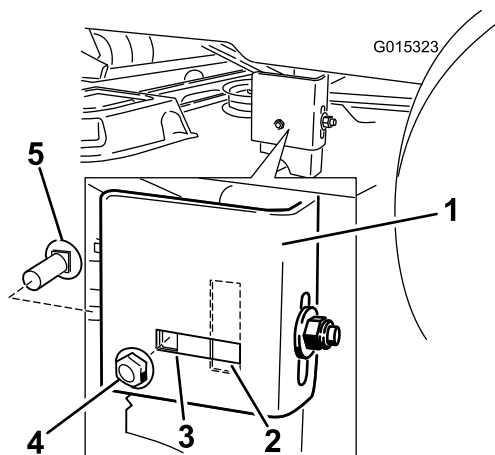

Figure 53
7. Move to the left side of the machine. Remove the side carriage bolt and locking nut from the fixed position and install it into the rear, slotted position and leave it slightly loose (Figure 53).